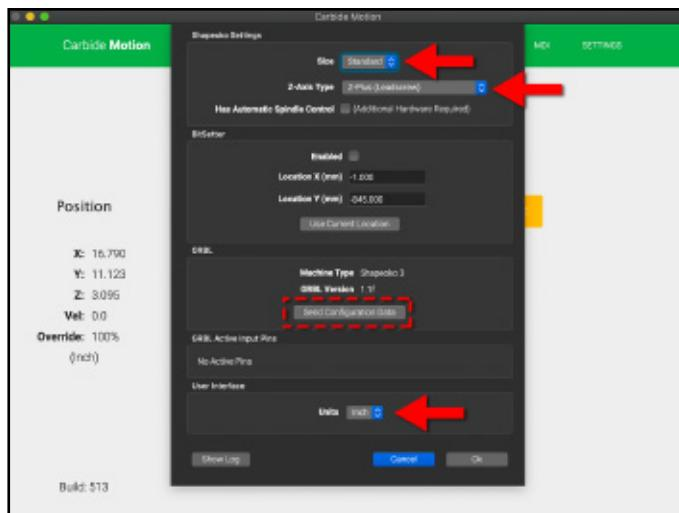

Figure 11-3
- Choose “Standard” from the **Size** dropdown list, “Z-Plus (Leadscrew)” from the **Z-Axis Type** dropdown list, and “Inches” or “MM” from the **Units** dropdown list. See **Figure 11-3**.
- Click the **Update Shapeoko Configuration** button in the middle of the dialog window. See **Figure 11-3**.